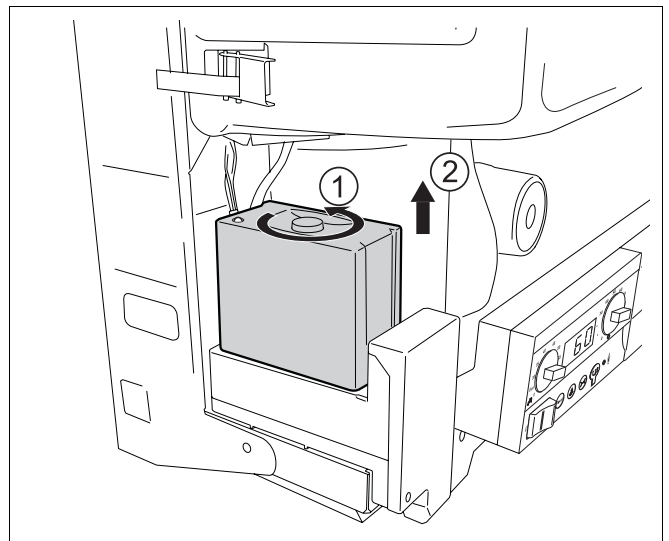

fig. 69 Remove UBA 3
- Loosen the screw (→ fig. 69, item 1) and remove the UBA 3 (→ fig. 69, item 2). When necessary install a new UBA 3 and secure by tightening the screw.
- If necessary remove the UBA (→ fig. 69) and set the multimeter to measuring resistance. The resistance of each pole should be 0 Ω.
- Loosen the screw (→ fig. 69, item 1) and remove the UBA (→ fig. 69, item 2).
- Carry out the power test on position 15 and 16 of the high voltage pin connector (→ fig. 69, item 3).
- Remove the UBA (→ fig. 69).